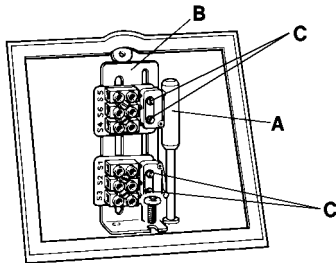

Fig.4
2. Push the switch operating rod 'A' into the large hole in the base of the actuator case (see Fig.4) until it clicks into the anti-rotation bracket (G above).